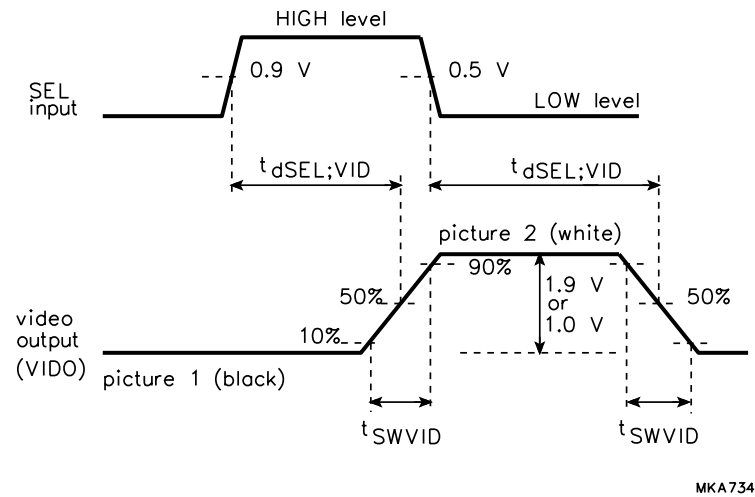

Fig.3 Timing definition: SEL and VIDO.
4. The delay between the SEL input and the video output together with the switching time of the video output is illustrated in Fig.3. The amplitude of the video signal is 1.9 V (p-p) when the clamp is active and 1.0 V (p-p) when the clamp is passive.